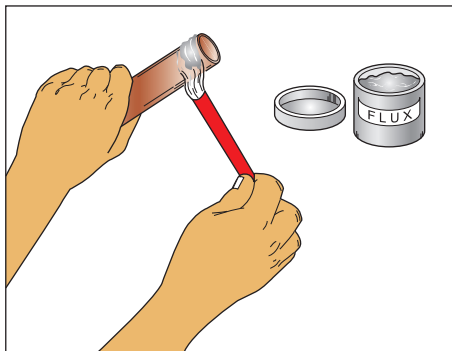

Figure 3-4:
- ✓ **Flux:** Flux cleans copper pipe and helps solder adhere better. It’s available in paste or liquid form, but most plumbers prefer the paste type. You must use flux when soldering copper pipe; apply it with a small brush to both the end of the pipe and the inside of the fitting – see Figure 3-4.